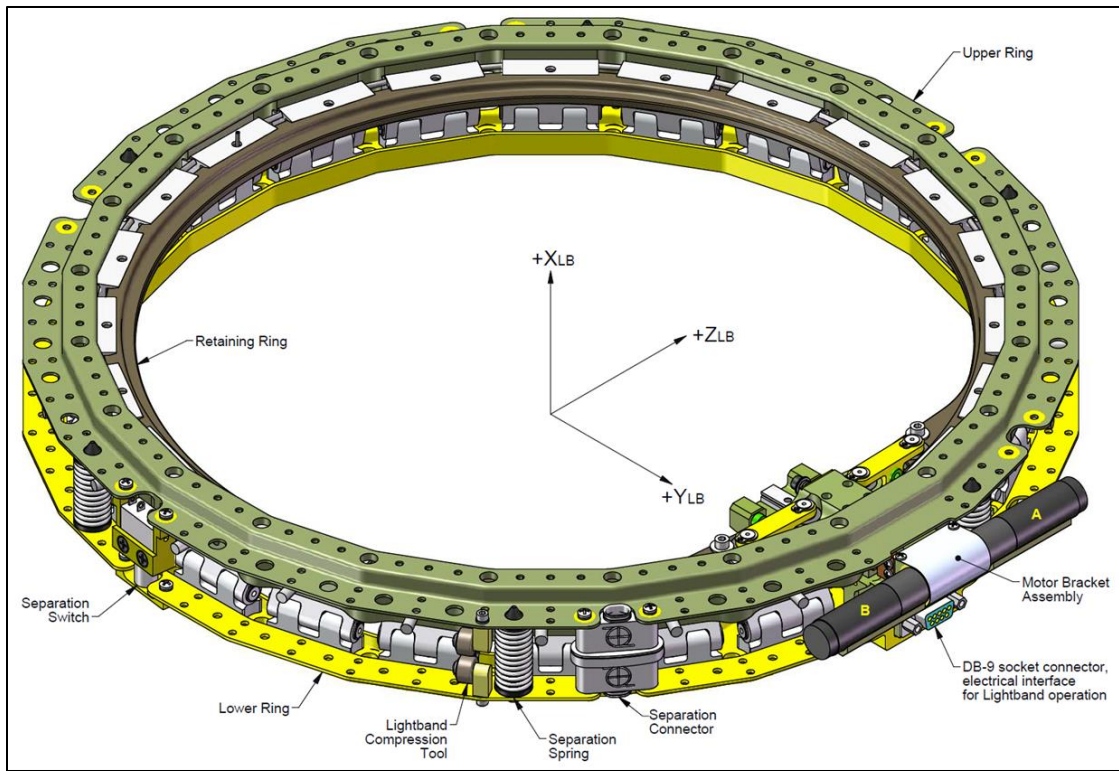
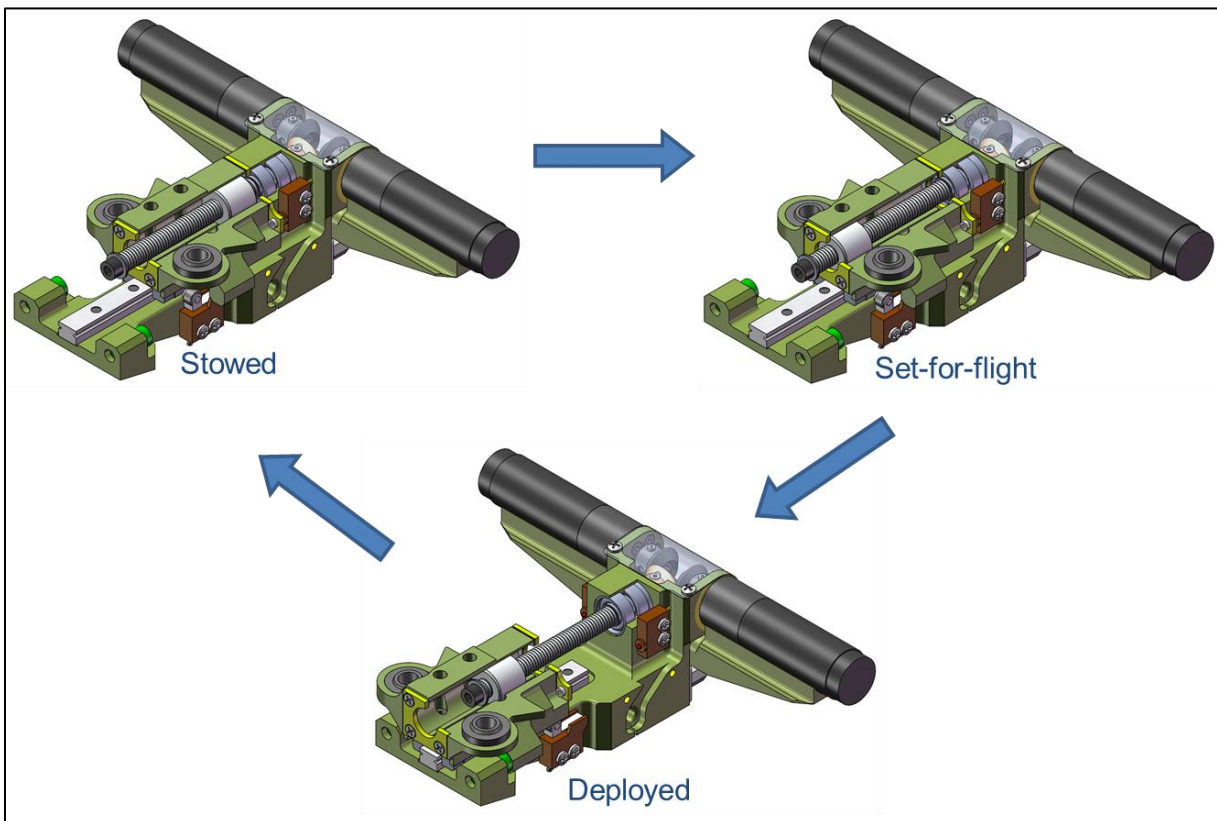

Figure 3-1: MLB15.000-24, Stowed
Figure 3-6: Motor Bracket Assembly operations
The Lightband is comprised of two separable halves. The Lower Ring contains the Hinged Leaves, Retaining Ring, Motor Bracket Assembly (MBA), and Separation Springs. The Upper Ring, smaller and lighter, contains both the Leaf engagement grooves and the spring plungers that help the Leaves disengage from the accepting groove. Typically, the Lower Ring is attached to the launch vehicle (LV) and the Upper Ring is attached to the space vehicle (SV). The electrical interface to operate the Lightband is a DE-9 socket connector on the outside of the MBA. See Figure 3-1 to Figure 3-6. For more information on the Lightband see PSC document *2000785 MkII MLB User Manual*.